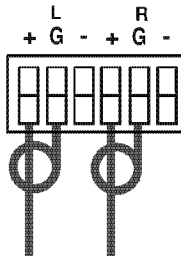

Figure 5: Connecting the Unbalanced Stereo Audio Output
- An unbalanced audio output (see Figure 5)
Figure 5 illustrates how to wire an unbalanced acceptor to the balanced output of the unit: